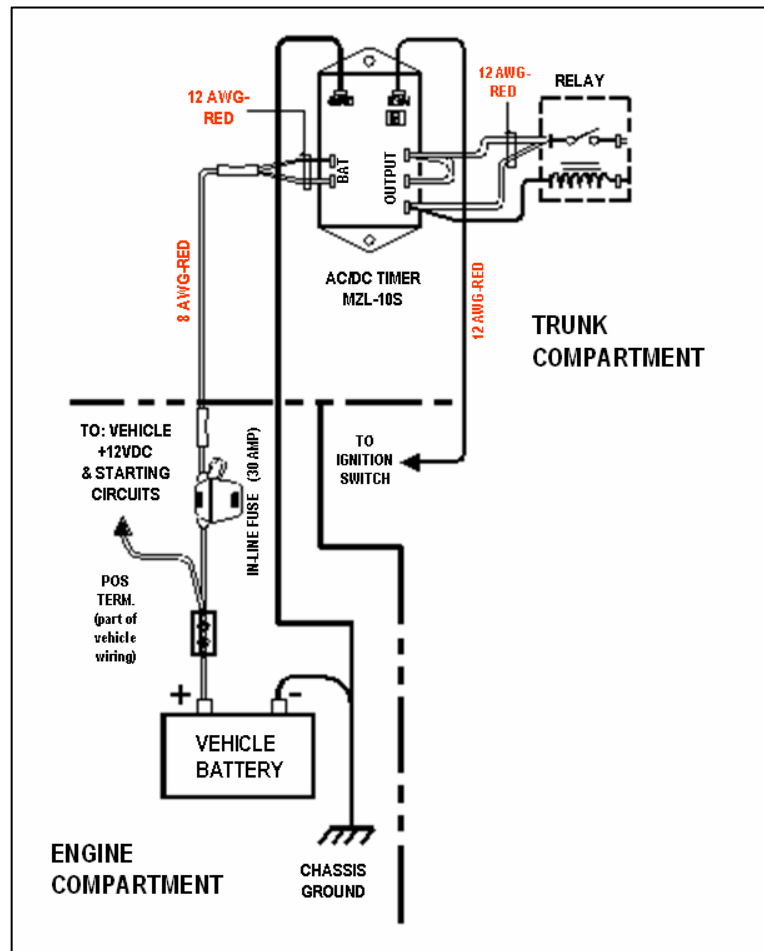

Figure 8: Delay Timer Installation
Step 2 Route the black wire (#12 AWG) from ground connection on the Delay Timer to the vehicle chassis (see Figure 8).